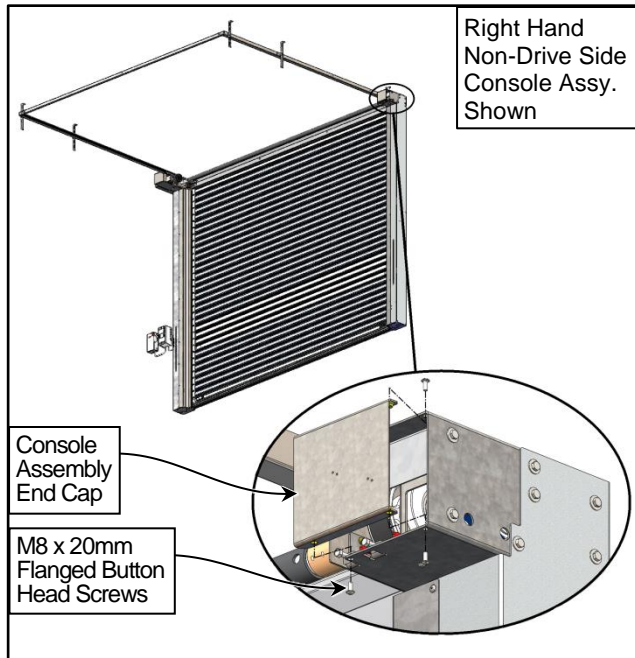

Figure 75
4. Remove the associated end cap from the head console assembly to expose the upper end of the spring strap. Each end cap is held in place with three, M8-20mm long, Button Head TORX® screws. (See Figure 75)